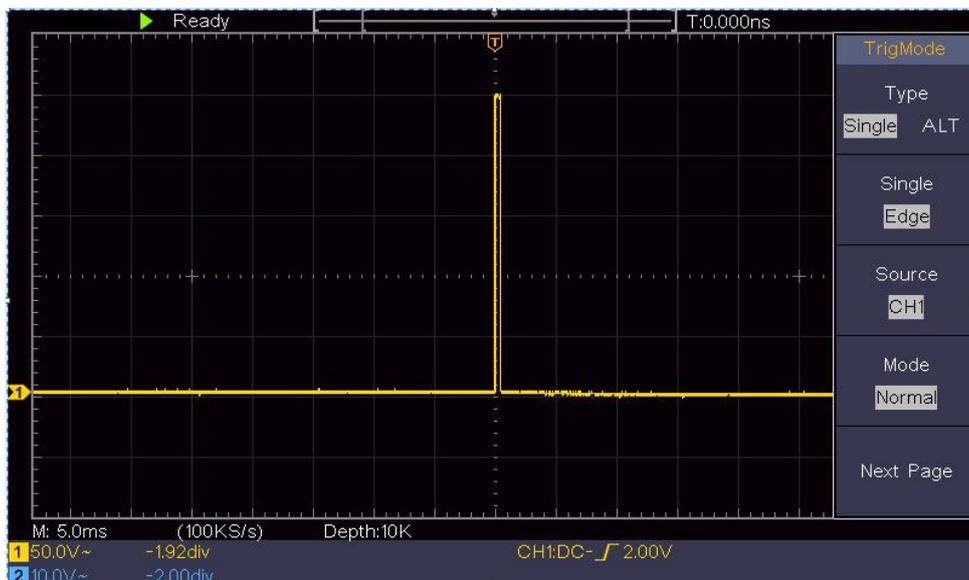

Figure 6- 3 Capturing a Single Signal
- (3) Push the **Acquire** button to display the right menu.
- (4) In the right menu, select **Acqu Mode** as **Peak Detect**.
- (5) Push the **Trigger Menu** button to display the right menu.
- (6) In the right menu, select **Type** as **Single**.
- (7) In the right menu, select **Single** as **Edge**.
- (8) In the right menu, select **Source** as **CH1**.
- (9) In the right menu, press **Next Page**, select **Coupling** as **DC**.
- (10) In the right menu, select **Slope** as  (rising).
- (11) Turn the **Trigger Level** knob and adjust the trigger level to the roughly 50% of the signal to be measured.
- (12) Check the Trigger State Indicator on the top of the screen, if it is not Ready, push down the **Run/Stop** button and start acquiring, wait for trigger to happen. If a signal reaches to the set trigger level, one sampling will be made and then displayed in the screen. By using this approach, a random pulse can be captured easily. For instance, if we want to find a burst burr of high amplitude, set the trigger level to a slightly higher value of the average signal level, push the **Run/Stop** button and wait a trigger. Once there is a burr occurring, the instrument will trigger automatically and record the waveform during the period around the trigger time. By turning the **Horizontal Position** knob in the horizontal control area in the panel, you can change the horizontal triggering position to obtain the negative delay, making an easy observation of the waveform before the burr occurs (see *Figure 6- 3*).